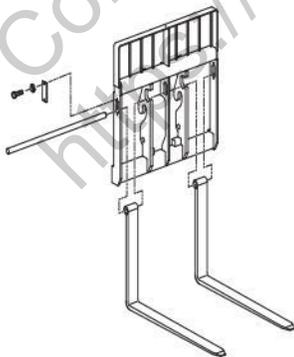

Figure 2-28 Changing Forks
3. Draw the bar out of the fork eye and carriage side plate, being careful that the fork doesn't fall over, causing possible injury (see Figure 2-28).